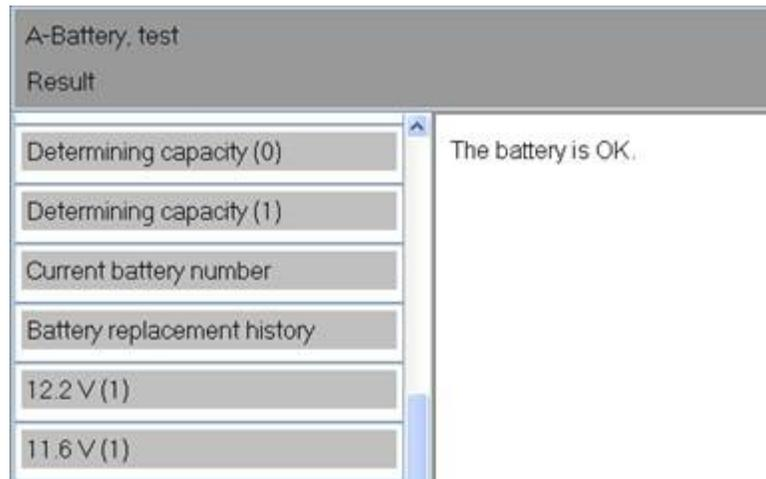

Figure 3. Battery test result.
4. View the test result (Figure 3):